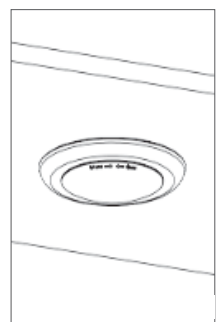

FIGURE 7
**H)** Installation complete. (Figure 7)